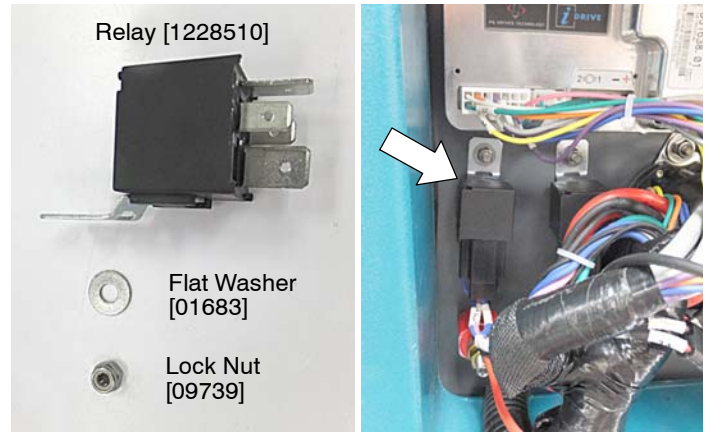

Fig. 21
- Plug the relay into the harness connector and mount the relay to the electrical panel using hardware as shown (Figure 21).